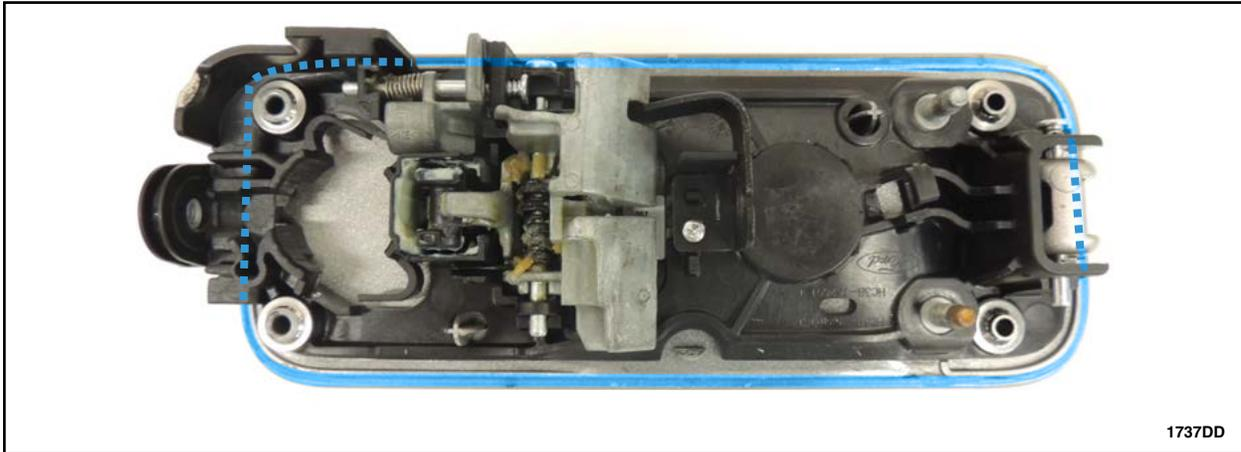

FIGURE 56
31. If a foam gasket is present around the perimeter of the exterior rear door handle, thoroughly remove the foam gasket. Using a clean shop towel and isopropyl alcohol, clean the highlighted mating surface area of the exterior door handle. See Figure 56.